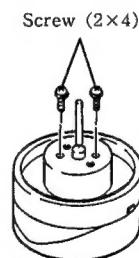

Fig. 1-11.
- ③ With the shaft still inserted in the positioning hole, use your hand to push down the rotating drum lightly. If the drum does not go down completely, refer to Fig. 1-11, and gradually tighten the two long screws (2×5) alternately to fasten the rotating drum.
- ④ Take out the shaft. If the shaft cannot be readily taken out, redo the procedure from step ②.